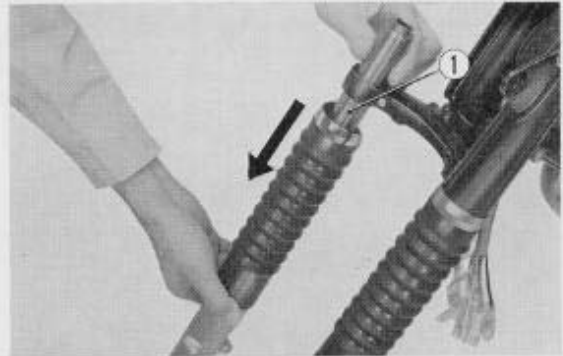

Fig. 4.29 Removing front fork assembly
6. Remove the two front cushion setting bolts at the front fork bottom bridge and remove the front cushions ①. (Fig. 4.29)